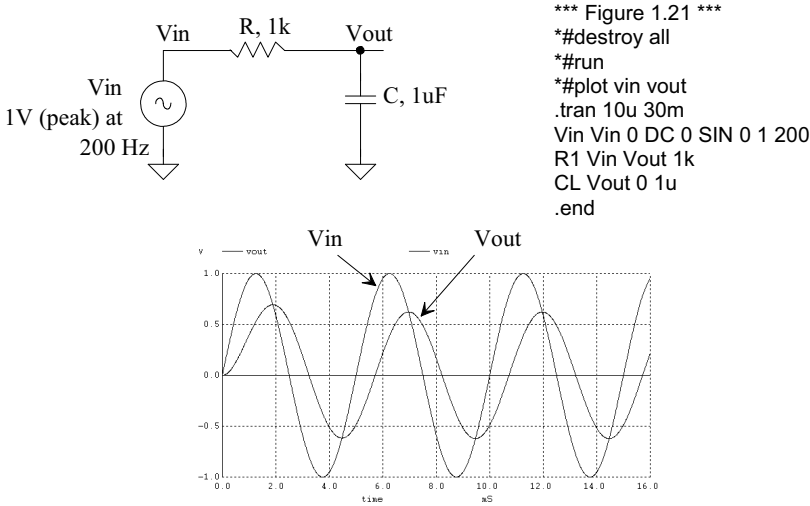

Figure 1.21 Simulating the operation of an RC circuit using a .tran analysis.
To illustrate the use of a .tran simulation let's determine the output of the RC circuit seen in Fig. 1.21 and compare our hand calculations to simulation results. The output voltage can be written in terms of the input voltage by
From the schematic the resistance is 1k, the capacitance is 1 μ F, and the frequency is 200 Hz. Plugging these numbers into Eqs. (1.1) – (1.3) gives $\left| \frac{V_{out}}{V_{in}} \right| = 0.623$ and $\angle \frac{V_{out}}{V_{in}} = -0.898$ radians or -51.5 degrees. With a 1 V peak input then our output voltage is 623 mV (and as seen in Fig. 1.21, it is). Remembering that phase shift is simply an indication of time delay at a particular frequency,
The way to remember this equation is that the time delay, t_d , is a percentage of the period (T), t_d/T , multiplied by either 2π (radians) or 360 (degrees). For the present example, the time delay is 715 μ s (again, see Fig. 1.21). Note that the minus sign indicates that the output is lagging (occurring later in time) the input (the input leads the output).
The dec indicates that the x-axis should be plotted in decades. We could replace dec with lin (linear plot on the x-axis) or oct (octave). The term nd indicates the number of points per decade (say 100), while fstart and fstop indicate the start and stop frequencies (note that fstart cannot be zero, or DC, since this isn't an AC signal). The netlist used to simulate the AC response of the circuit in Fig. 1.21 follows. The simulation output is seen in Fig. 1.23, where we've pointed out the response at 200 Hz (the frequency used in Fig. 1.21 and used for calculations on page 17).